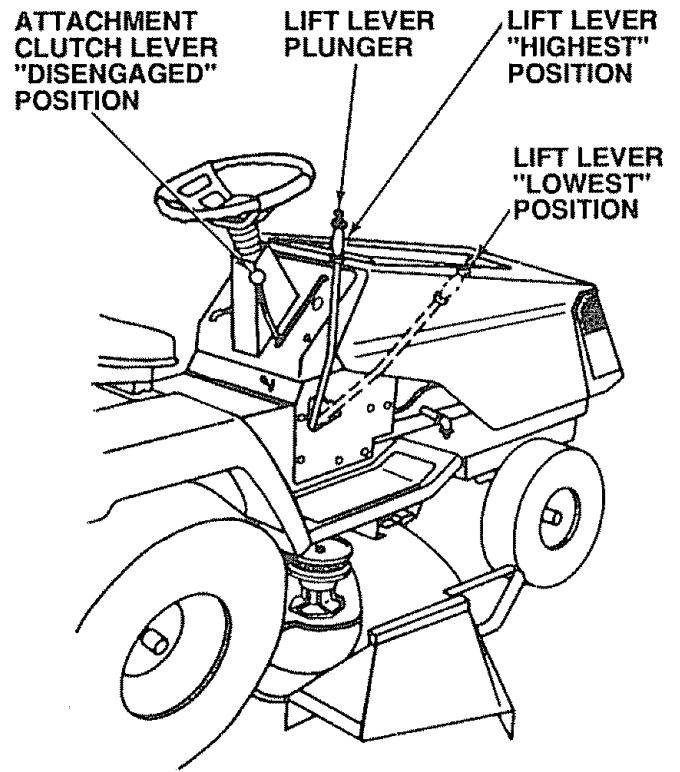
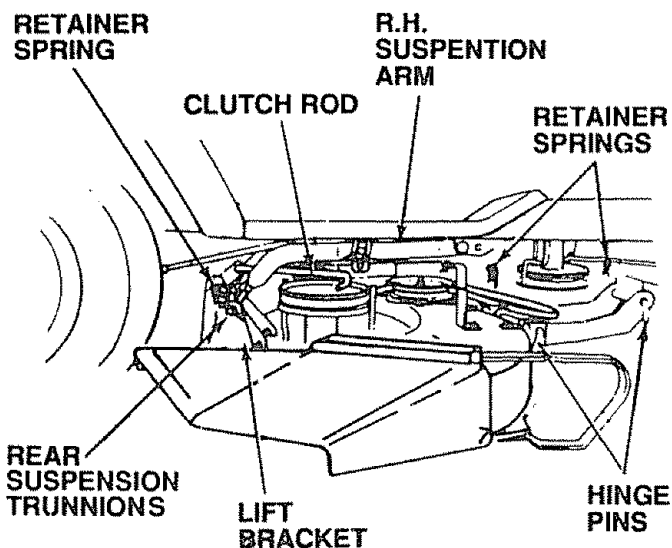

FIGURE 30
FIGURE 29
- Remove retainer spring from clutch rod; pull clutch rod out of clutch bracket. (Fig. 29)
- Pull retainer springs out of rear suspension trunnions. Remove rear suspension trunnions from lift brackets (Fig. 29).
- Pull retainer spring out of rear hinge pin. Remove rear hinge pin. (Fig. 29).
- Pull retainer spring out of front hinge pin. Remove front hinge pin (Fig. 29).
NOTE: IF AN ATTACHMENT OTHER THAN THE MOWER DECK IS TO BE MOUNTED ON THE TRACTOR, THE L.H. AND R.H. SUSPENSION ARMS (FIG. 29) SHOULD BE REMOVED FROM TRACTOR.
Your Mower installs without the use of tools. Raise attachment lift lever (Fig. 30) to its highest position.
- Move attachment lift lever (Fig. 30) forward to lower suspension arms. Slide trunnions through lift bracket holes and secure with retainer springs (Fig. 29).
- Use attachment lift lever (Fig. 30) to raise mower.
- Place attachment clutch lever in "Disengaged" position (Fig.30).
- Move Attachment lift lever (Fig. 30) forward to lower mower to its lowest position.